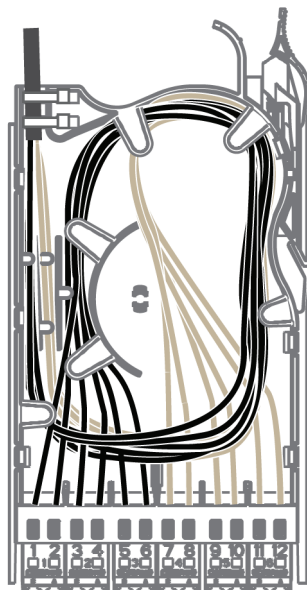

Figure 8
5.1.5 Then mate the last six connectors into adapters 1 through 6 and route the fibres as shown in Figure 8